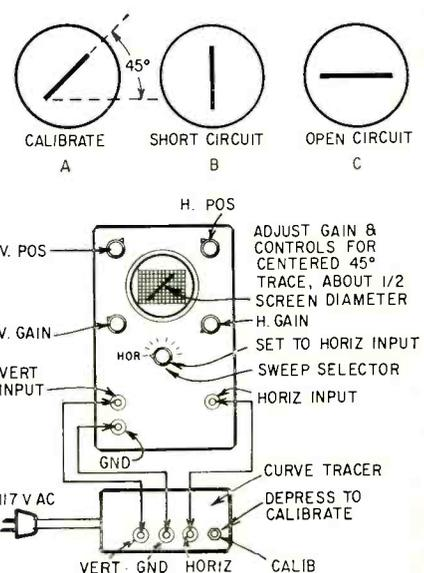
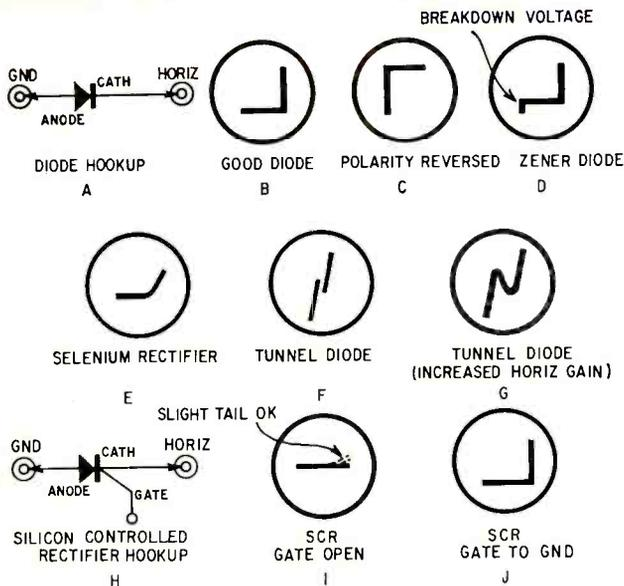

Fig. 2—How to connect and calibrate the Tracer.
Fig. 3—Diode and rectifier tests with the Tracer.
The equalizing components in the KLH Model 8, an FM receiver, are shown in Fig. 3.
An oscilloscope connected to VERT, GND and HORIZ as shown in Fig. 2 (shielded leads are *not* necessary) will display characteristic patterns that depend on what is connected across the GND and HORIZ binding posts. A semiconductor diode, for example, is polarity-sensitive and conducts only when biased in the proper direction. During half the input cycle it acts as a short circuit across GND-HORIZ, tracing a vertical line on the scope screen; during the other half cycle, it "looks like" an open circuit and traces a horizontal line. The result is an L-shape for a good diode. Each type of component has characteristics that yield a distinctive trace on the scope. With very little practice, you'll learn to distinguish them.
Connect the Curve Tracer to your scope as shown in Fig. 2. Be sure to put the sweep selector to the "Horizontal" or "External" position. When the Tracer's cord is plugged into an ac outlet, you should get a horizontal line on the scope screen (with nothing connected across GND-HORIZ). Now close the calibration switch; the line on the screen will tilt. Adjust the scope's vertical and horizontal gain and positioning controls until the display is a straight line tilted at a 45° angle, centered on the screen, and covering about half the screen diameter. This completes calibration, and the oscilloscope controls will not need to be adjusted again, except as indicated in specific tests that follow.
Don't be surprised, incidentally, if all your patterns seem to be the *reverse* of the patterns shown in the illustrations and photos. If your calibration line slants in the opposite direction from that shown in Fig. 2-a, all your patterns will be flipped left-for-right around the scope screen's vertical centerline. This is a result of the *direction* of horizontal deflection in your scope (left to right or right to left), which varies with different makes. Also, the
About the only common electronic components the Curve Tracer *won't* test in some manner are quartz crystals and batteries. Just about everything else can be given a functional or continuity test as described in the following paragraphs. In all cases, the component under test is connected between the GND and HORIZ binding posts, with "polarity" as described. A short is shown by a vertical line (Fig. 2-b), an open by a horizontal line (Fig. 2-c).
to HORIZ, as shown in Fig. 3-a. A good diode will look like Fig. 3-b. If you've connected the diode with the anode and cathode inverted, the pattern will be inverted (Fig. 3-c); this allows you to identify the polarity of unmarked diodes. If the vertex of the L-shape is rounded, or if either leg is much shorter than the other, or slanted from the horizontal or vertical, the diode should be discarded.
**Zener diodes.** Connect as for any other diode. If the Zener "breakdown" voltage is below about 10 volts, you'll get a pattern like Fig. 3-d. The distance of the breakdown ledge from the vertex is a measure of the Zener voltage, from zero at the vertex, to 10 volts at the end of the horizontal leg.
**Selenium rectifiers.** Connect as shown in Fig. 3-e. Typical pattern is Fig. 3-e. Note the rounded vertex and
**Tunnel diodes.** Connect as shown in Fig. 3-a. The initial display will be as shown in Fig. 3-f—two vertical lines with a gap in the center. However, by increasing the scope's horizontal gain, you can get the pattern of Fig. 3-g, almost the classical tunnel-diode curve! Remember to recalibrate the scope (reduce horizontal gain) before testing other components.
**Silicon controlled rectifiers (SCR's).** Connect as shown in Fig. 3-h, with the gate *not* connected. The pattern should be as shown in Fig. 3-i, possibly with a slight slanted tail. Now, with a cliplead, connect the gate to GND, and you should get the pattern of Fig. 3-j, since the SCR will now conduct during the half-cycle when the anode and gate are positive with respect to the cathode.
Silicon rectifiers and new decoupling, as shown in Fig. 2.
Fig. 2—Original vertical deflection amplifier in 3-inch Heath OL-1 (newer IO-21 is very similar). Wiring and parts shown as heavy lines affect bandwidth seriously.
As shown in the photos, the original printed circuit can be used in the OL-1 (the IO-21 does not use a printed circuit). Fig. 2 shows the original schematic of the vertical deflection amplifier. Fig. 3 shows the modified amplifier. The parts and wiring shown as heavier lines are new or replaced. Notice the low plate-load-resistor values, with peaking coils in series. On the OL-1 it is best to modify the vertical position circuit as shown. The extra wiring to external terminals for the plates should also be removed, since it seriously affects performance at the upper end of the frequency range. Rise time of the new circuit is about 0.1  $\mu$ sec or less.